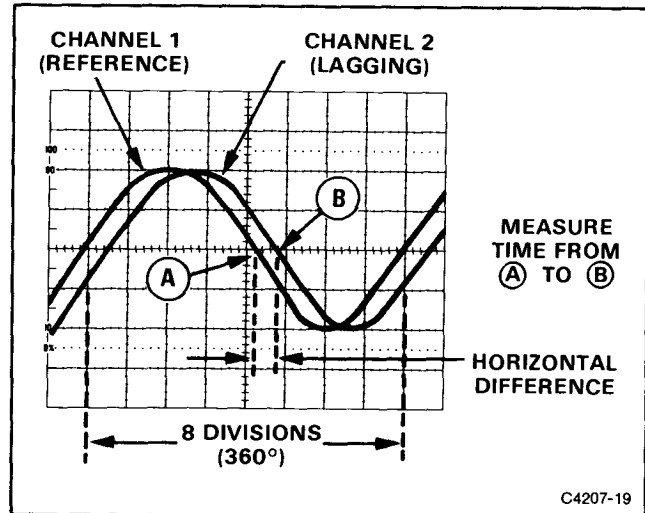

Figure 4-8. Phase difference.
9. Position the displays and adjust the SEC/DIV Variable control so that one reference-signal cycle occupies exactly 8 horizontal graticule divisions at the 50% rise-time points (see Figure 4-8). Each division of the graticule now represents 45° of the cycle (360° ÷ 8 divisions), and the horizontal graticule calibration can be stated as 45° per division.
Example: The horizontal difference is 0.6 division with a graticule calibration of 45° per division as shown in Figure 4-8.
EXAMPLE: If the sweep speed were increased 10 times with the magnifier (X10 Magnifier button out), the magnified horizontal graticule calibration would be 45°/division divided by 10 (or 4.5°/division). Figure 4-9 shows the same signals illustrated in Figure 4-8, but magnifying the displays results in a horizontal difference of 6 divisions between the two signals.